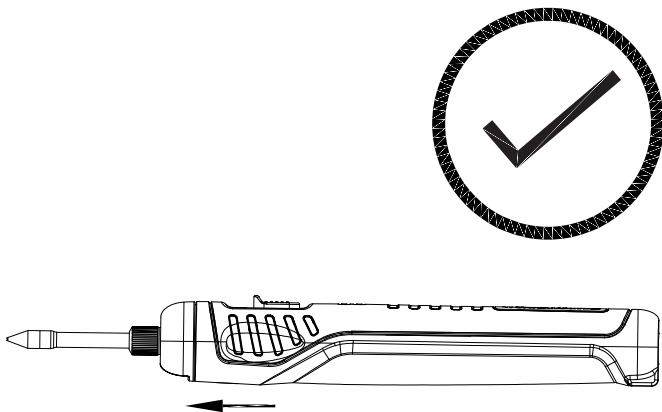
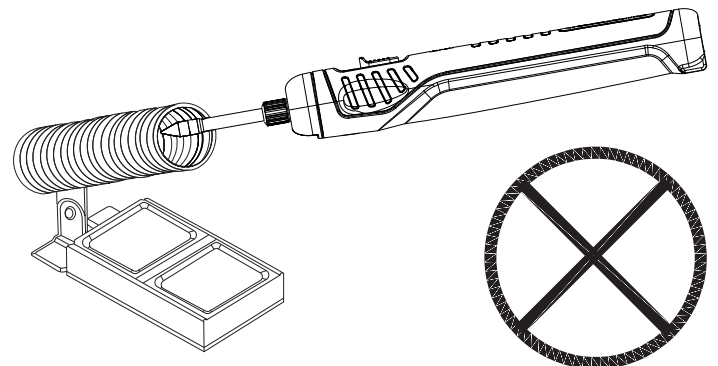

Fig. 2 - Correct storage of Soldering Iron 218012 when not in use
Fig. 3 - Do not place in coil holder
- Do not stand or store tool upright on the battery pack. The Soldering Iron could tip resulting in contact between hot tip and flammable materials. Always set/store Soldering Iron on its side. (Fig. 2)
- Do not place Soldering Iron in coil stand (Fig. 3). (218012 - place on its side when not in use Fig. 2)
12. Place iron on its side with the tip away from any contact until it has cooled (Fig. 2) Temp Indicator: